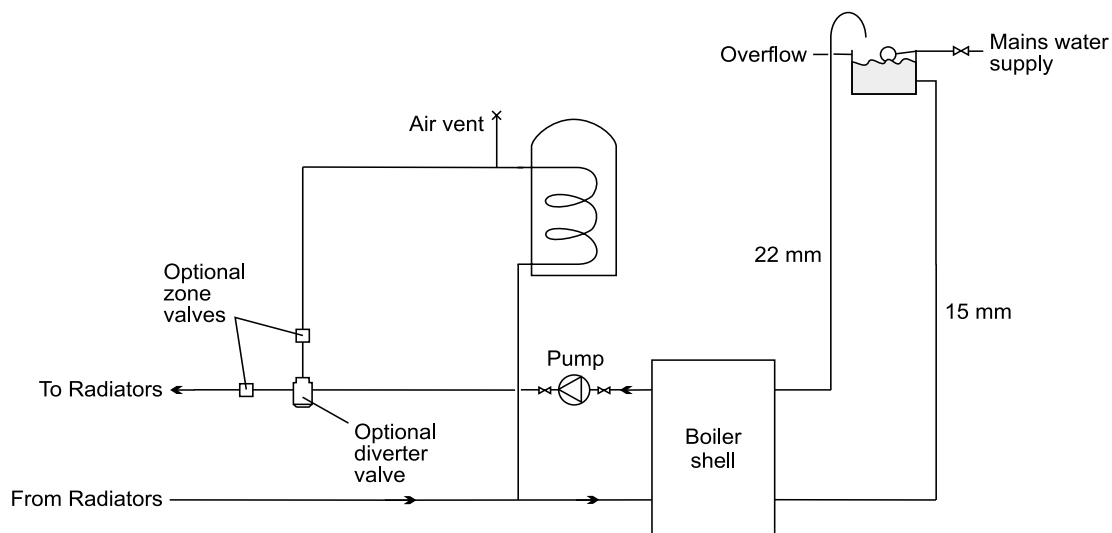

Fig. 14 - Fully pumped system
3.13.2 Fully pumped - (See Fig. 14)